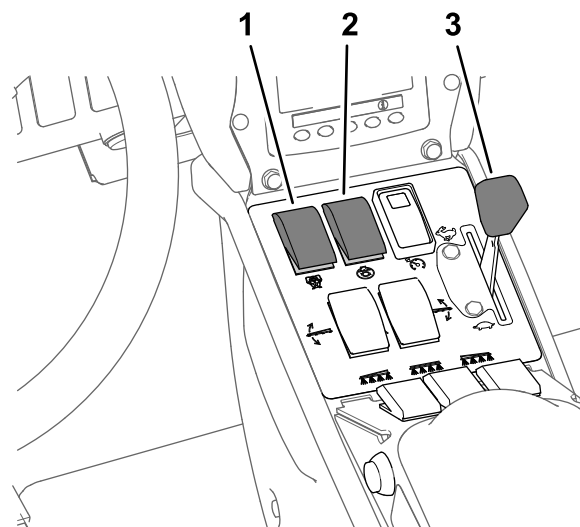

Figure 33
Note: This procedure assumes that the spray pump is on; refer to Figure 33 in Spraying in the Application Rate Mode (page 32).
4. Adjust the throttle to the desired engine speed to spray; refer to Figure 33 in Spraying in the Application Rate Mode (page 32).